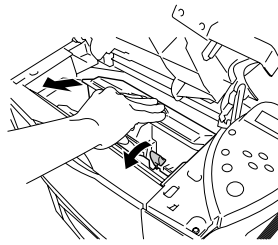

Fig. 5-4
- (1) Open the top cover of the printer.
- (2) Push down the blue lock lever and take out the Toner Cartridge. (Fig.5-4)